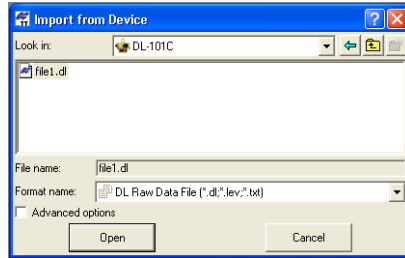

Figure 3-46. Import From Digital Level
5. Double-click the digital level icon (Figure 3-46 on page 3-42).